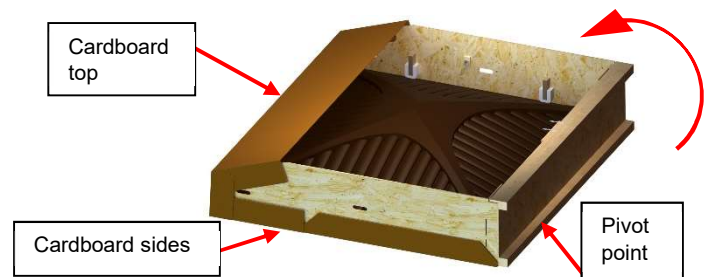

Figure 42
- 15) With the help of another person, gently lay the crate horizontally on its back by using the pivot point. (Figure 42) There should be one person on each side of the crate.
- 16) Remove the cardboard top and sides by simply unfolding them on the ground. (Figure 42)